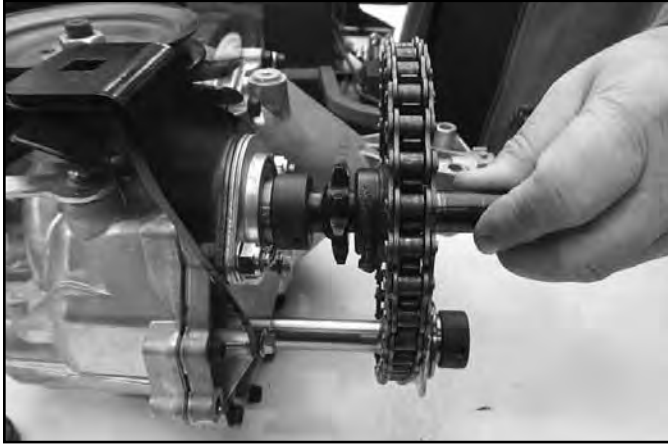

Fig. 119
1. Replace the needed parts. Re-install the output shaft and the jack shaft and install the chain. Leave the lock collars loose (Fig. 119).